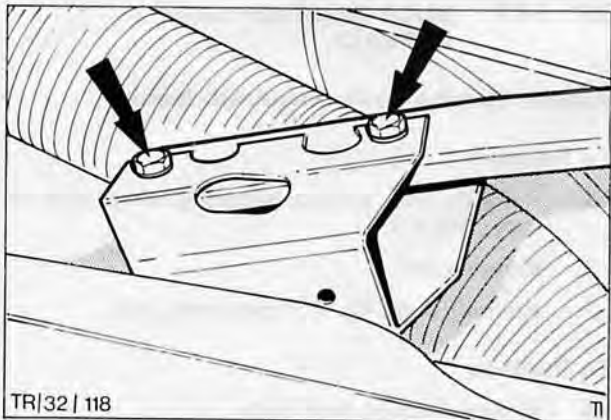

Fig. 18. Motor to linkage bolts
14. Remove two bolts securing motor, and bracket assembly to linkage, Fig. 18. Remove motor and bracket assembly. Remove wiper linkage from vehicle.